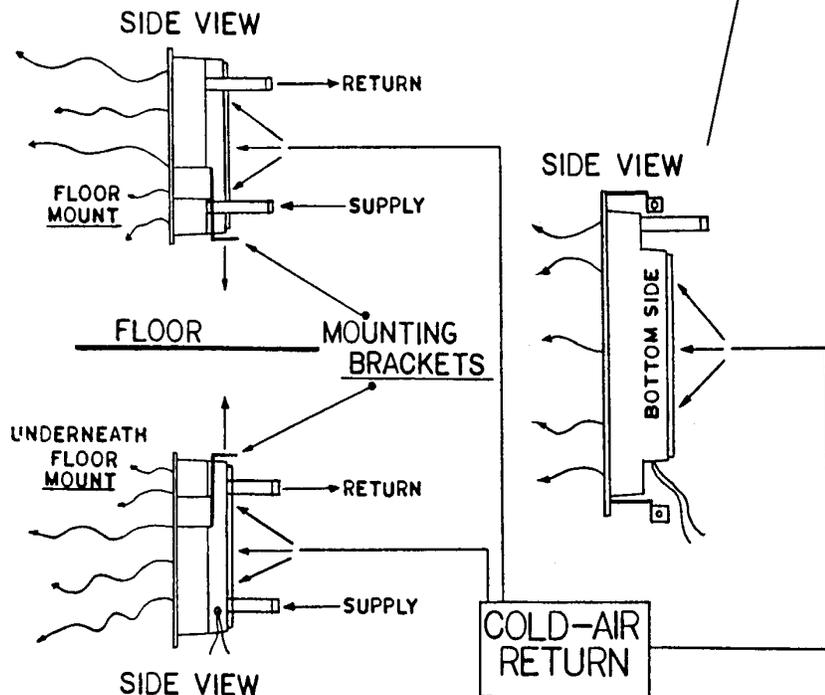

Figure 13
- If mounting a VSI Whisper heat exchanger (Part #5506580, 12 volt), the supply and return (input and output) ports must be mounted parallel to the vehicle's floor. For proper positioning, see Figure 13.